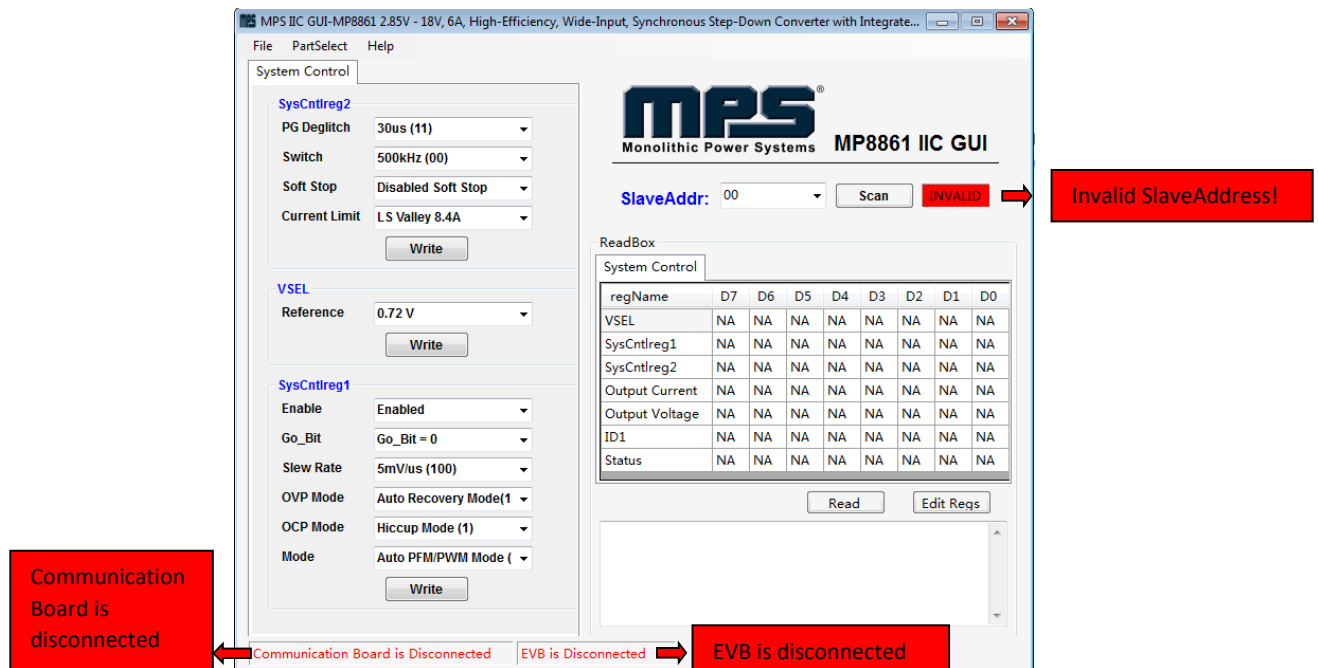

Figure 8: Warning Indicates Unsuccessful Connection
- If connection is not successful, a warning will appear at the bottom. There are two warnings a user can expect (see Figure8). Each of the warnings mean an invalid connection.